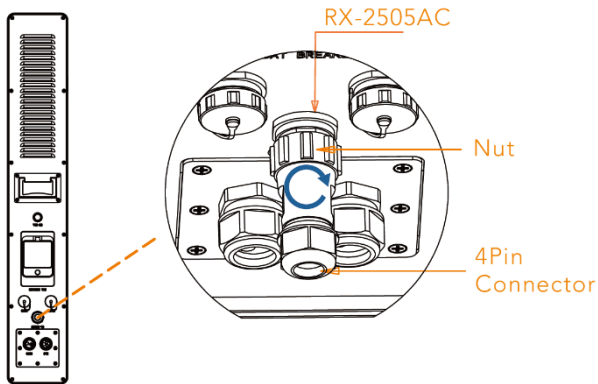

Figure 5-10 - CT connector tightening
3. Tighten the aviation plug as shown in Figure 5-10.